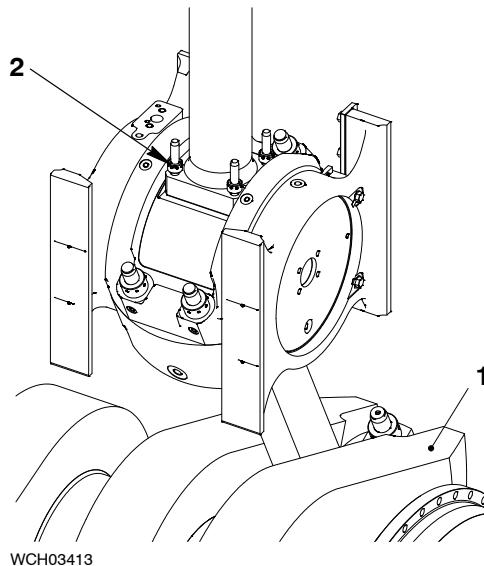
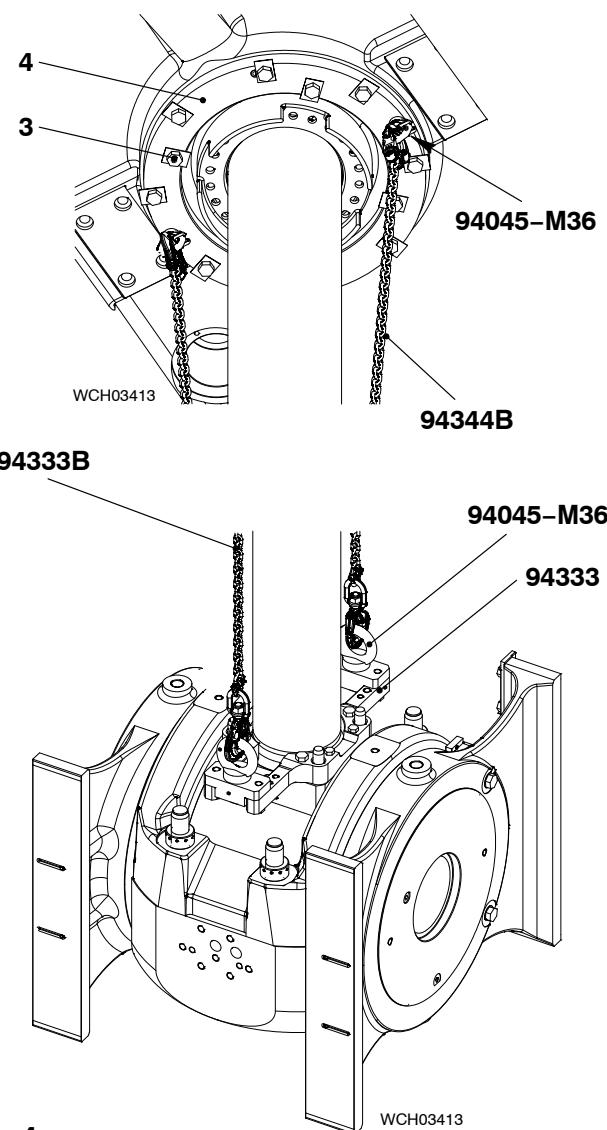

Fig. 3
Fig. 4
- 2) Operate the turning gear to turn the crank (1, Fig.3) approximately 90° to the exhaust side.
- 3) Remove the four round nuts (2) from the piston rod foot, refer to the procedure in 9403-4.
- 4) Remove the four inner bolts (1, Fig. 4) from the support (2).
- 5) Remove two applicable outer bolts from the support (2).
- 6) Attach the two eye bolts (94045-M36) to the support (2).
- 12) Operate the turning gear to move the crosshead pin up sufficiently so there is no tension on the chains (94333B, Fig. 4).
- The four inner bolts (3, Fig. 4) are removed